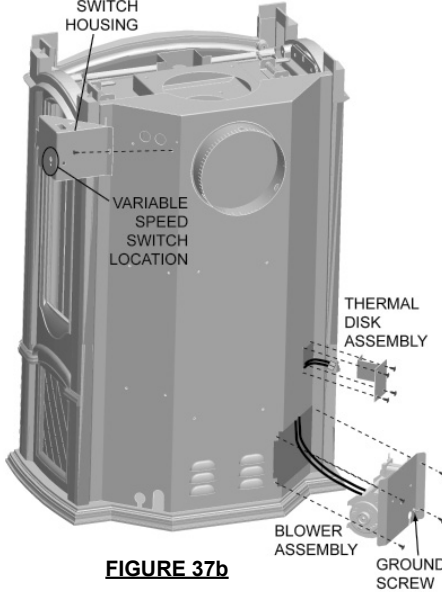

FIGURE 37b
2. Fish the wire extension through the blower knock-out as shown and connect to the prongs on the thermodisc. **Figure 37b**
3. Ensure the thermodisc is touching the wall of the firebox. Secure the thermal disk assembly to the rear panel using 4 of # 8 screws supplied. **Figure 37b**
4. Connect the variable speed switch to the jumper wire (installed in the stove) located just inside the larger knock out area. **Figure 37b**